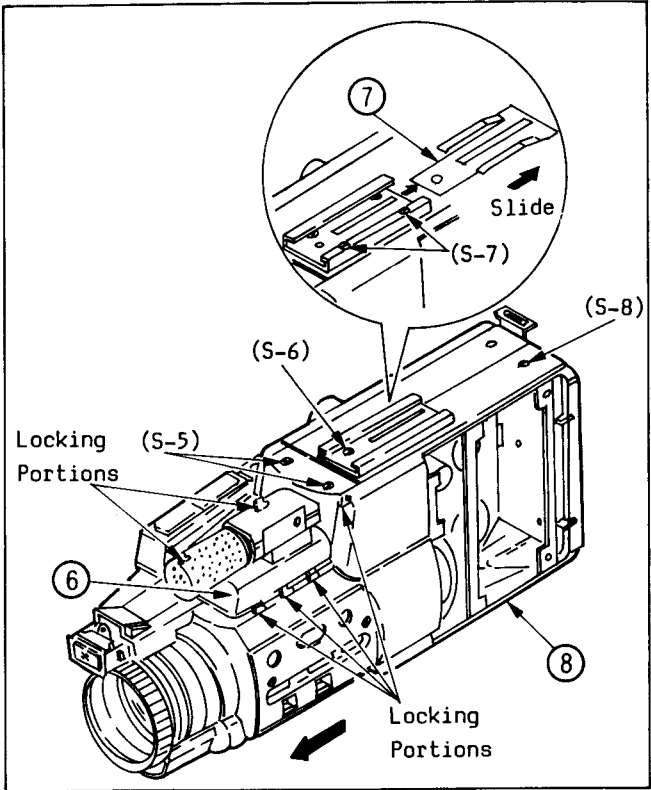

Fig. D4
3. After removing Screw (S-6), slide the E.V.F. Shoe Spring to the rear as shown in Fig. D4.